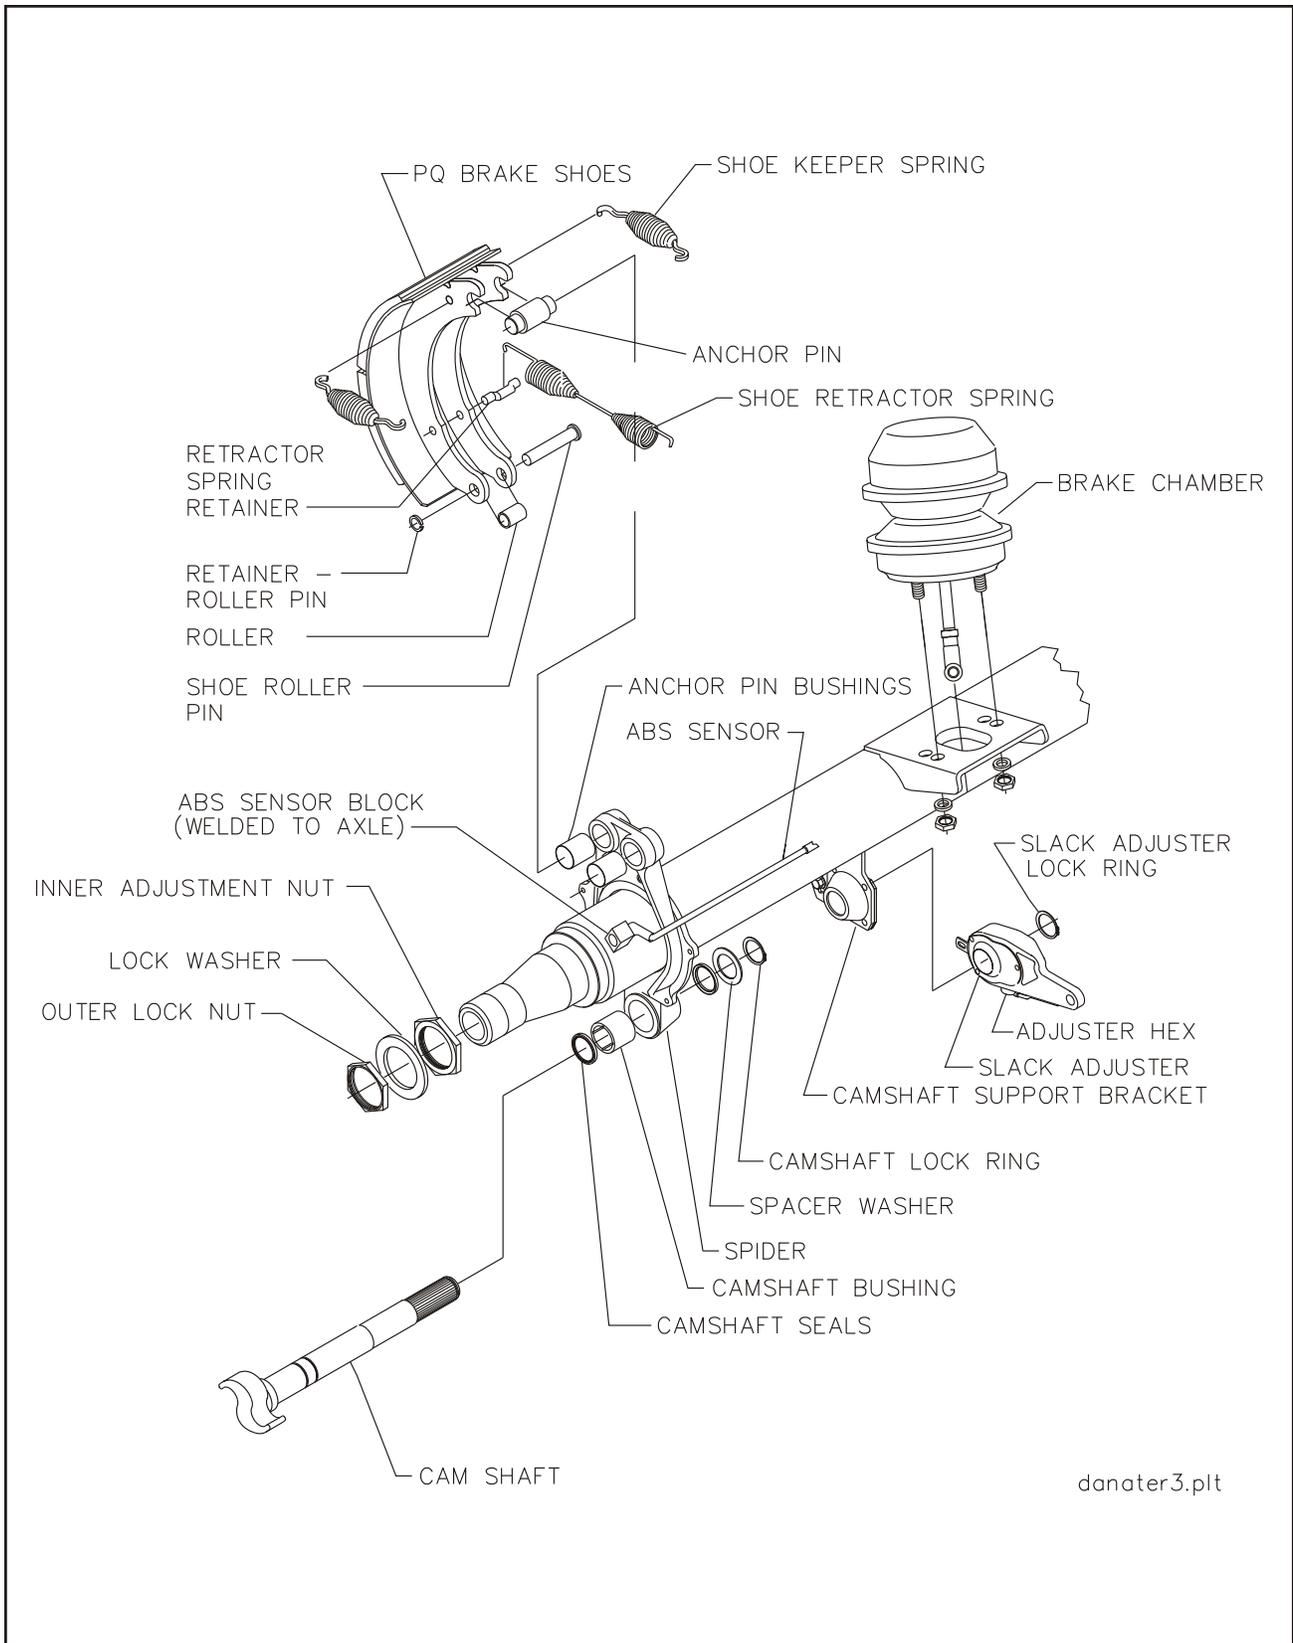

FIGURE 4-10 AXLE AND BRAKE ASSEMBLY
4. Disconnect the slack adjuster from the connecting rod by removing the clevis pin (**See Figure 4-10**).
4. Remount the brake chamber on the axle brackets and reconnect the air service hoses and the slack adjuster connecting rod (**See Figure 4-10**).
b. Disassembly for 12-1/4" X 7-1/2" Brakes (See Figure 4-10)
3. Remove drum assembly (**See Figure 4-10**).
c. Reassembly for 12-1/4" X 7-1/2" Brakes (See Figure 4-10)